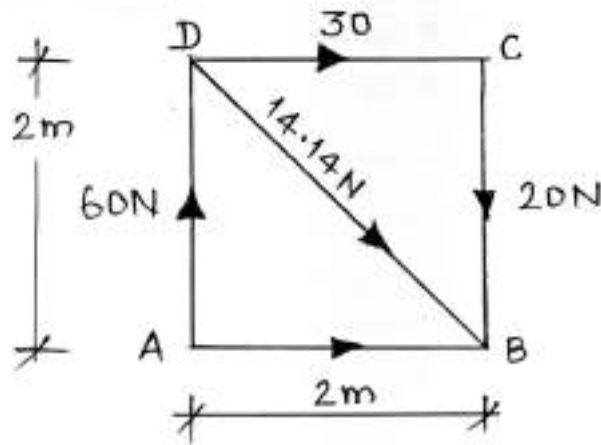

Fig. No. 7.
- c) Calculate magnitude direction and position of the resultant w.r.t. 'A' of the forces shown in Fig. No. 7.